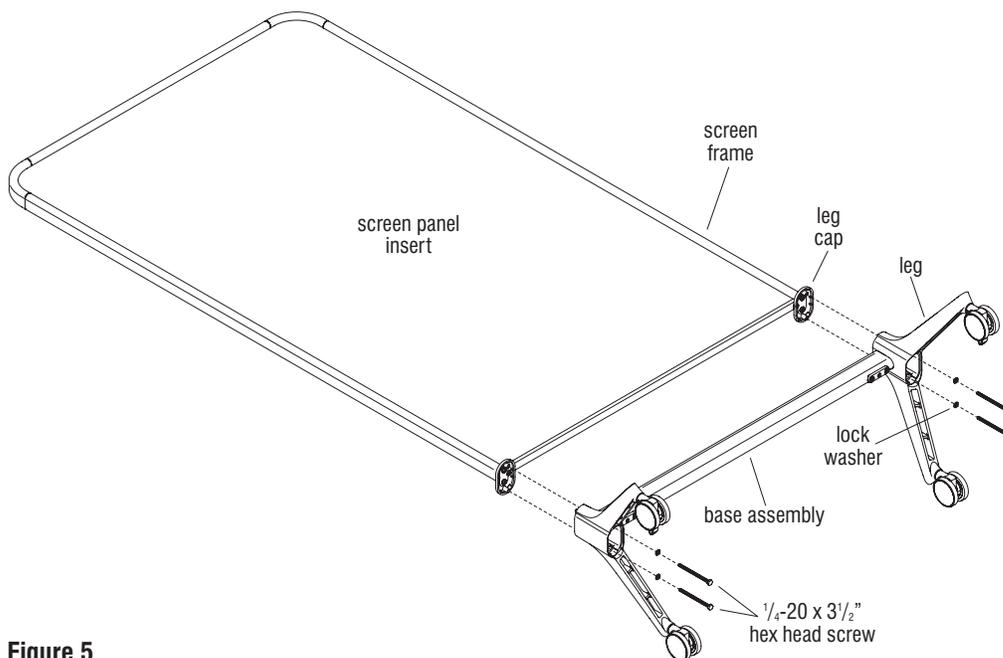

Figure 5
11. Carefully lay the base assembly onto its back and the screen frame down onto a soft, protective surface (Figure 5).
12. Align the mounting holes on the bottom of each leg with the mounting holes on the underside of each leg cap on the screen frame. Using a socket wrench, secure each screen frame's leg cap to a leg using two 1/4-20 x 3 1/2" hex head screws and two 1/4 lock washers from underneath (Figure 5).